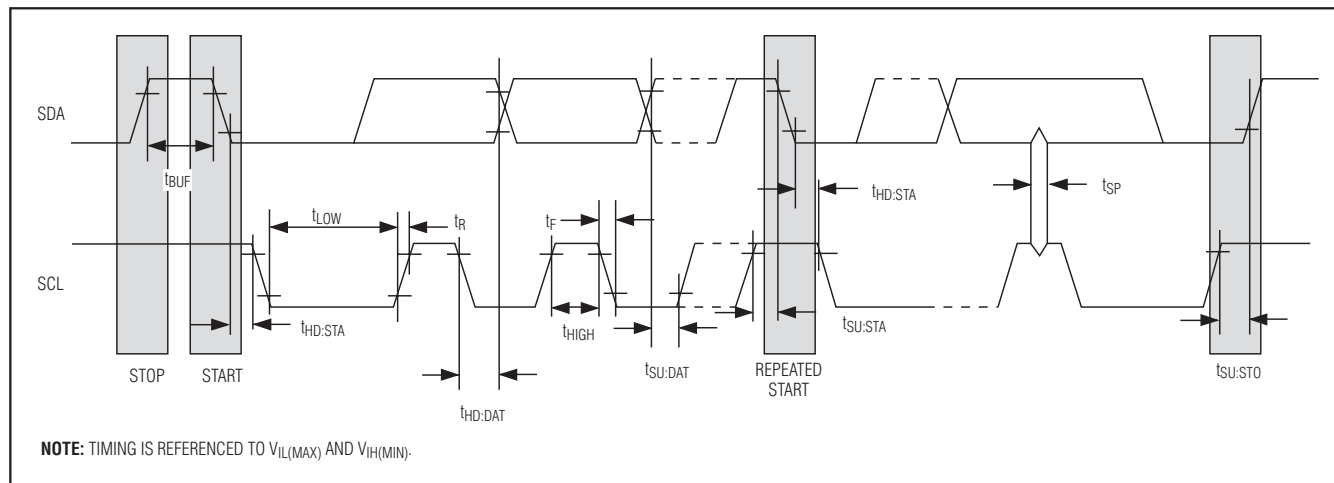

Figure 9. I²C Timing Diagram
**START Condition:** A START condition is generated by the master to initiate a new data transfer with a slave. Transitioning SDA from high to low while SCL remains high generates a START condition. See Figure 9 for applicable timing.
**STOP Condition:** A STOP condition is generated by the master to end a data transfer with a slave. Transitioning SDA from low to high while SCL remains high generates a STOP condition. See Figure 9 for applicable timing.
**Repeated START Condition:** The master can use a repeated START condition at the end of one data transfer to indicate that it will immediately initiate a new data transfer following the current one. Repeated START conditions are commonly used during read operations to identify a specific memory address to begin a data transfer. A repeated START condition is issued identically to a normal START condition. See Figure 9 for applicable timing.
**Bit Write:** Transitions of SDA must occur during the low state of SCL. The data on SDA must remain valid and unchanged during the entire high pulse of SCL plus the setup and hold-time requirements (Figure 9). Data is shifted into the device during the rising edge of the SCL.
**Slave Address Byte:** Each slave on the I2C bus responds to a slave addressing byte (Figure 9) sent immediately following a START condition. The slave address byte contains the slave address in the most significant 7 bits and the R/W bit in the least significant bit.